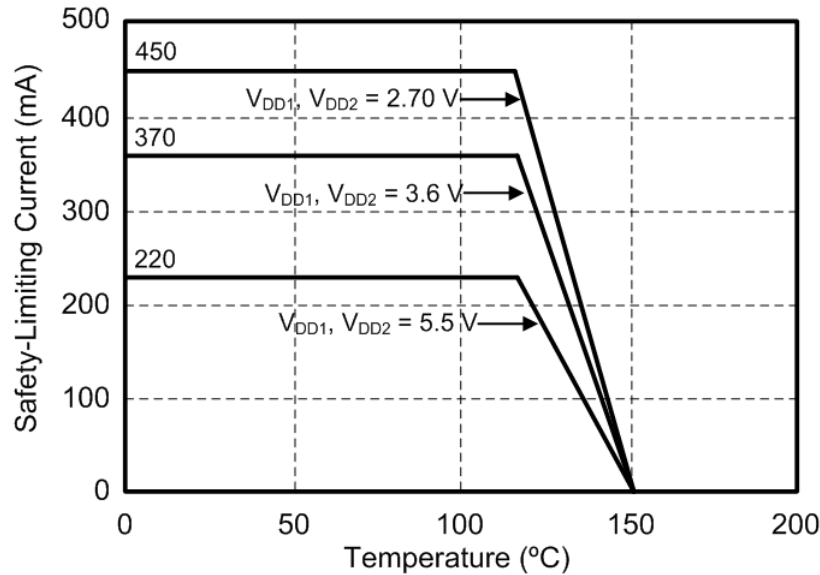
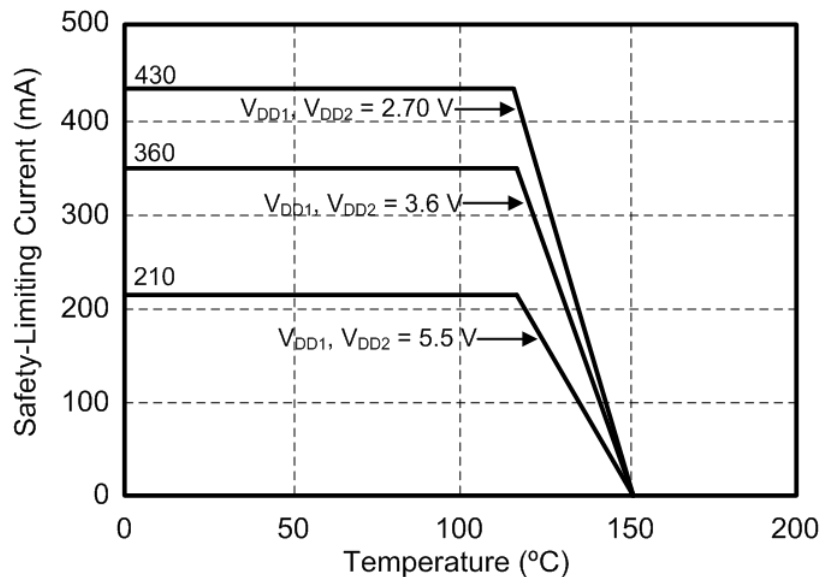

Figure 4.4. (WB SOIC-16) Thermal Derating Curve, Dependence of Safety Limiting Values with Case Temperature per DIN EN 60747-5-5/VDE 0884-10, as Applies
Figure 4.5. (NB SOIC-16) Thermal Derating Curve, Dependence of Safety Limiting Values with Case Temperature per DIN EN 60747-5-5/VDE 0884-10, as Applies
1. Maximum value allowed in the event of a failure; also see the thermal derating curve in [Figure 4.4 \(WB SOIC-16\) Thermal Derating Curve, Dependence of Safety Limiting Values with Case Temperature per DIN EN 60747-5-5/VDE 0884-10, as Applies on page 24](#) and [Figure 4.5 \(NB SOIC-16\) Thermal Derating Curve, Dependence of Safety Limiting Values with Case Temperature per DIN EN 60747-5-5/VDE 0884-10, as Applies on page 24](#).